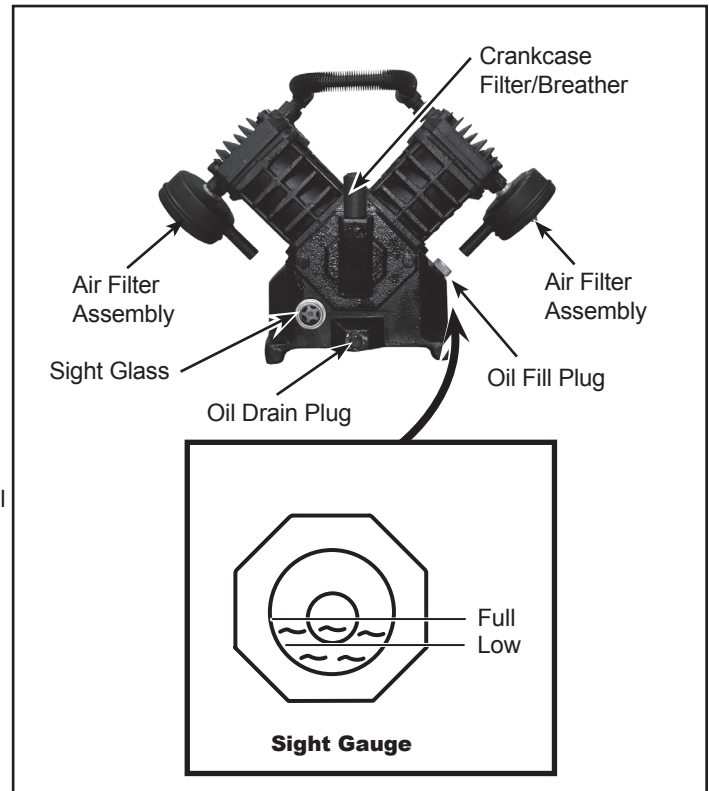

Figure 3 - Lubrication
**⚠ CAUTION** This unit contains no oil. Before operating compressor, fill to the center of the sight gauge (see Figure 3).
Fill the pump with oil to the center of the sight gauge using oil fill opening (see Figure 3). **Do NOT fill the pump through the breather cap opening as this may cause oil to leak and spray out during operation.**